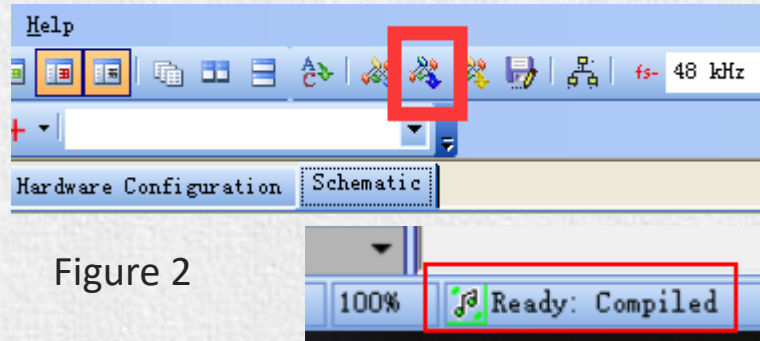

Figure 2
1. Click the “Link Compile Connect” (see figure 2) and you will find “Ready: Compiled” in the lower right corner of your computer.